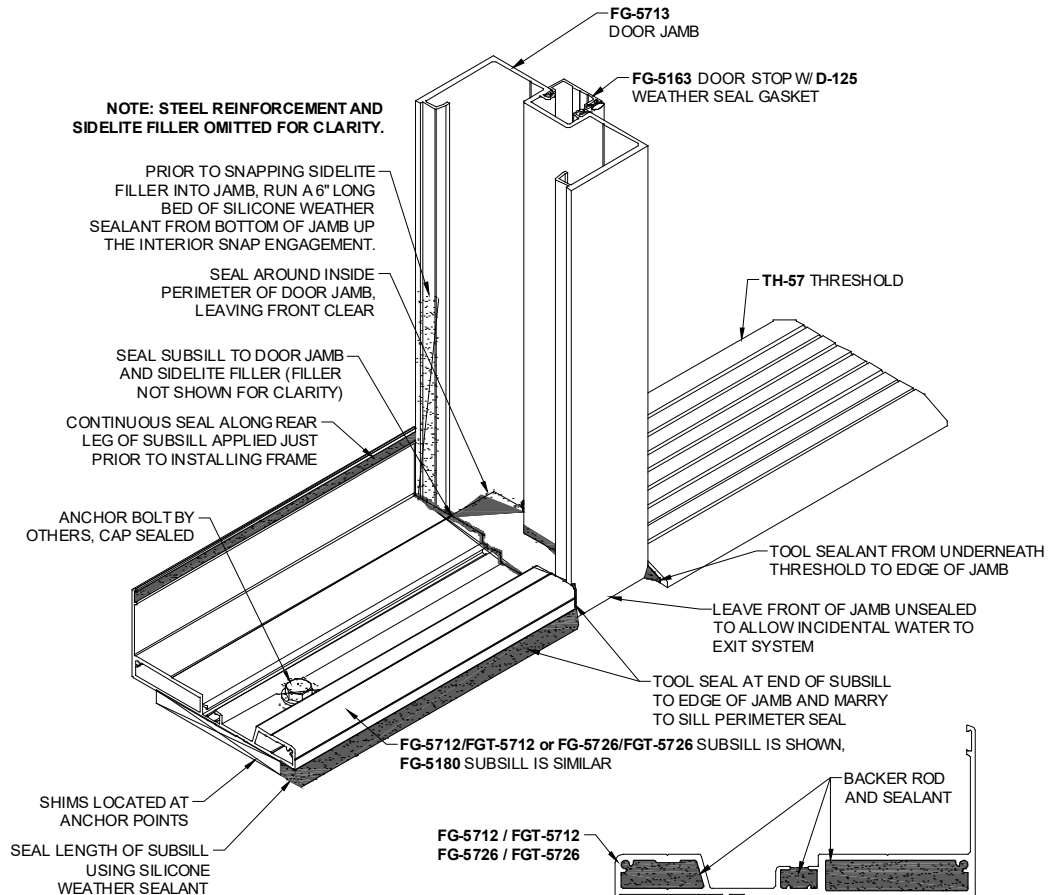

Figure 23: Sidelite Installation
- 7.9 Wipe away excess sealant from Threshold and Jamb locations immediately after installing. Exposed front ends of Threshold must be sealed after frame installation to prevent water encroachment under the Threshold and into the building or substrate. Reference Figure 23 for pictorial representation of this seal.
- 8.3 Seal the inside of the Door Jamb to the substrate per *Figure 23*, leaving the front face unsealed for drainage. Door Jambs run to the slab.
- 8.6 If using the **FG-5712, FGT-5712, FG-5726 or FGT-5726** Subsill, fill cavities at end with backer rod and seal over end of Subsill completely. For fill reference, see *Figure 23*. If using the **FG-5180** Subsill, butter end of extrusion generously with sealant. Do not allow sealant to skin over before proceeding to the next step.